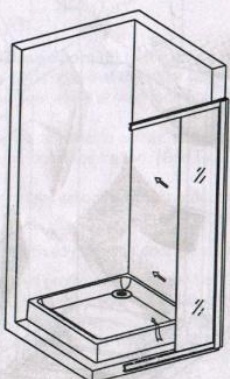

fig 8
7. Carry the assembled unit on the top of shower base. You can adjust position of the shower enclosure by pulling it partially out of the wall profile. Now, adjust wall profiles vertically using level. (See Fig 8)